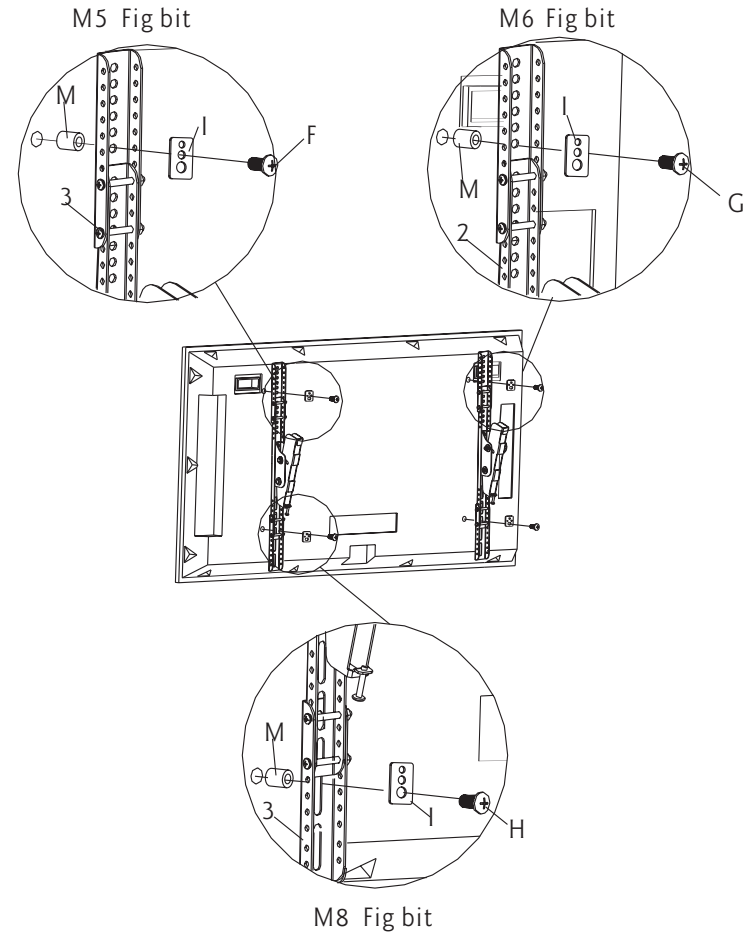

Fig 1d
2. Some displays have curved backs with recessed mounting lands (Fig. a). It will require the use of spacer. For this display, install a spacer (M) between display and the bracket. As shown in Fig 1d.